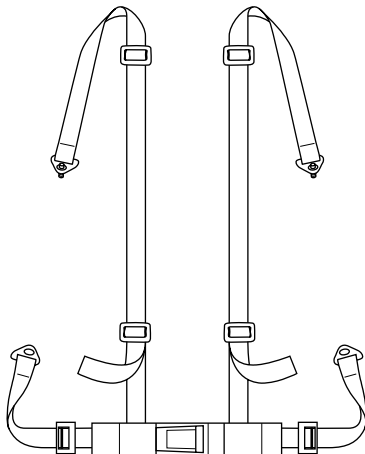
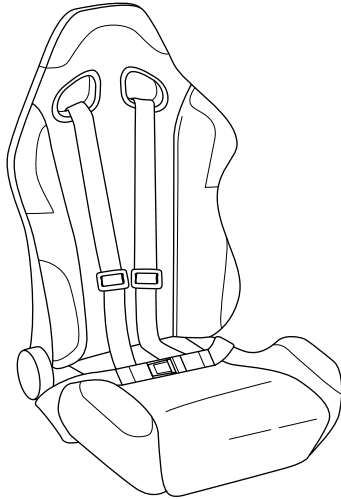

Figure 4-14:
Figure 4-15:
- ✔ Four straps (as shown in Figure 4-14 and Figure 4-15)